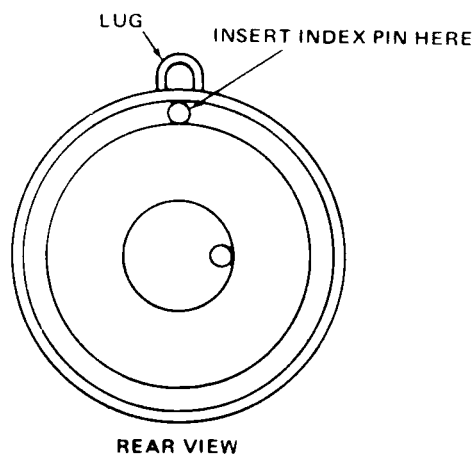

Figure 3-13. 12 O'Clock Position Index Hole in Bomb Body
10. Insert index pin on fin assembly into 12 o'clock position index hole in bomb body (figure 3-13 and 3-14.) Keeping arming wire MK 3 taut, press fin up tight against bomb body.
5. Orient fin to bomb body by aligning index pin on fin in 12 o'clock position index hole in bomb body (figures 3-13 and 3-14). Press fin tight against bomb body.